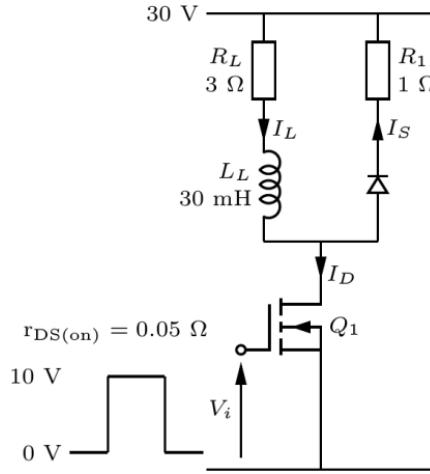

Figure 3a
- Calculate the emitter injection efficiency. Assume that the current due to each carrier is proportional to the conductivity of the semiconductor from where it originates. (4)
- Calculate the current gain if the base transport factor, $B = 1$. (2)
- c. Describe the main contributing mechanism which results in the small reverse leakage current in a p-n junction? (3)
- i. when using a semiconductor with an increased bandgap or bond strength? (2)
- ii. at a lower diode temperature? (2)
- d. The reverse leakage current in a p-n junction at room temperature is $1 \times 10^{-6} \text{ A}$. What applied forward junction voltage will give a current of $1 \times 10^{-2} \text{ A}$? In your calculation assume that the exponential term in the diode equation is $\gg 1$. (4)
- The actual measured voltage across the diode terminals required to give this current is 25 mV higher than the value calculated above. Explain why this happens? (2)
a. Using the information provided in figure 3a find,
- i) the load current, I_L , when the transistor has been on for a long time. (1)
- ii) the energy stored in the inductor assuming the transistor has been switched on for a long time. (1)
- iii) the power dissipated in the load when the switch is on. (1)
- iv) the power dissipated in the switch when the switch is on. (1)
- v) I_D , I_L and I_S immediately after the switch turns off. (3)
- vi) V_{DS} immediately after the switch turns off. (2)